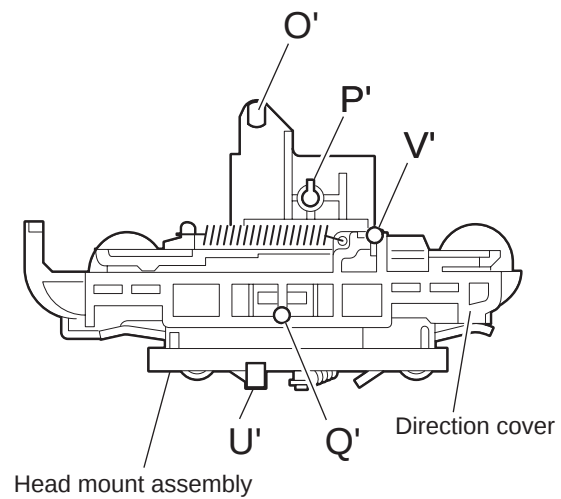

Fig.11
3.1.5 Removing the tuner board (See Fig.11)
3.2.6 Reattaching the Play/ Record & Clear head (See Fig.11~13)
- (1) Reattaching the head mount assembly.
- b) Fit the bosses **O'**, **P'**, **Q'**, **U'** and **V'** on the head mount assembly to the holes **P** and **V**, the slots **O**, **U** and **Q** of the mechanism sub assembly (See Fig.11 to 13).